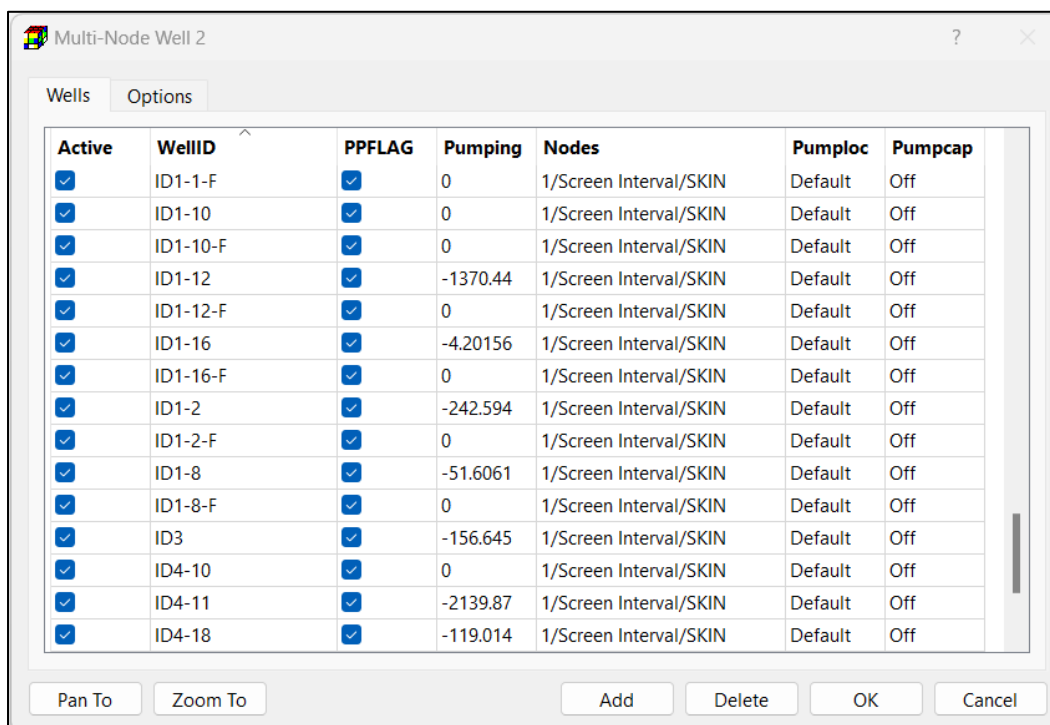

Figure 75. The Multi-Node Well 2 dialog box
1. **Cell-by-cell input method**: Right-click on a model cell to display the Multi-Node Well 2 dialog box (Figure 75).
You can enter the pumping rates of a well by double-clicking on its Pumping cell in the Multi-Node Well 2 dialog box (Figure 75). This will open the MNW2 Pumping dialog box (Figure 77) with the following settings.
- **Qdes [L³/T]**: This represents the target volumetric pumping rate at the well. Use negative values for withdrawal and positive values for injection. Qdes should be set to 0 for non-pumping wells. If constraints are applied, the calculated volumetric withdrawal or injection rate may be adjusted within the range of 0 to Qdes. The flow direction (withdrawal or injection) remains unchanged throughout each stress period. When Pumpcap (Figure 75) is on, in the first stress period in which Qdes is specified with a negative value, Qdes represents the maximum operating discharge for the pump. Any different negative values of Qdes are ignored in subsequent stress periods in which head-capacity relations are used. If $Qdes \geq 0.0$, then pump-capacity adjustments are not applied.
- **CapMult [-]**: This is a multiplier for implementing head-capacity relations (see Pump Performance Curve below) during a given stress period. CapMult is not used and grayed out if Pumpcap (Figure 75) is off.
The MNW2 Nodes dialog box (Figure 78) is used to define nodes for the well that is displayed in the dialog box. This dialog box is opened by double-clicking on a cell in the Nodes column of the Multi-Node Well 2 dialog box (Figure 75). The available settings of the dialog box are as follows.
Pumploc column of the Multi-Node Well 2 dialog box (Figure 75). The available settings of the dialog box are as follows.
The MNW2 Pumpcap dialog box (Figure 80) is used to define the pump performance curve and related parameters for the well that is displayed in the dialog box. This dialog box is opened by double-clicking on a cell in the Pumpcap column of the Multi-Node Well 2 dialog box (Figure 75). The available settings of the dialog box are as follows.